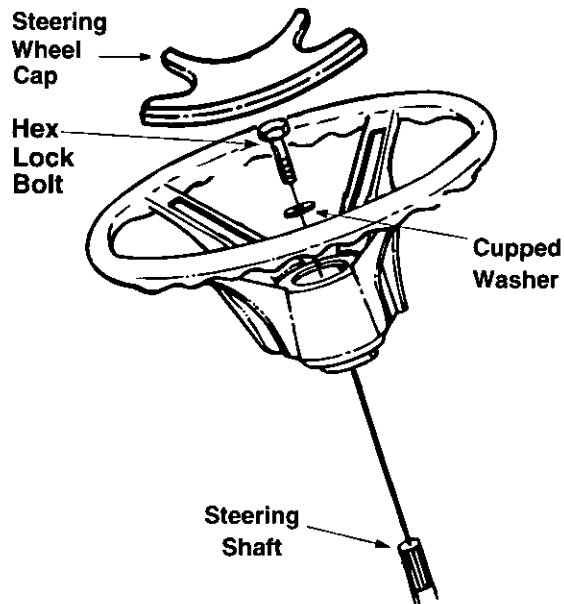

Figure 3
2. **With the wheels of the tractor pointing straight forward**, place the steering wheel over the steering shaft, positioning steering wheel as desired. See Figure 3.